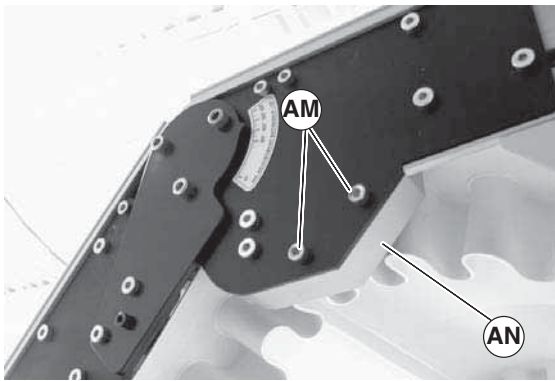

Figure 25
- Remove screws (Figure 25, item AO) and remove roller bearing (AP).